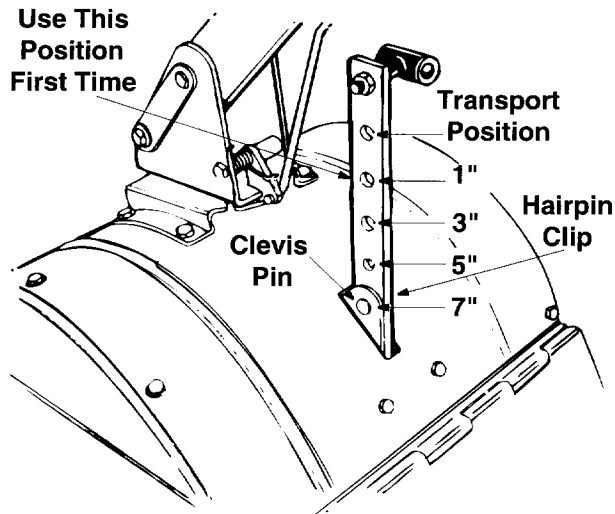
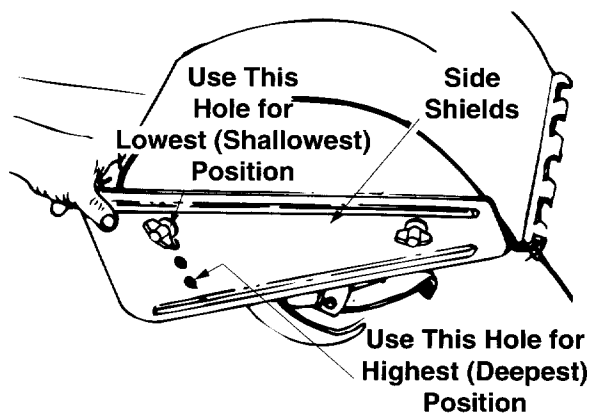

Figure 14
Figure 15
**WARNING:** When operating the tiller for the first time, use the depth stake setting that gives 1 inch of tilling depth (second hole from the top). Refer to Figure 14.
Tilling depth is controlled by the depth stake which can be adjusted to five different settings. See Figure 14. Adjust the side shields as shown in Figure 15, as you adjust the depth stake. Be certain spark plug wire is disconnected and grounded against the engine.
1. When using the tiller for the first time, use the second adjustment hole from the top (1" of tilling depth). See Figure 14.
To adjust the depth stake, remove the clevis pin and hairpin clip. See Figure 14. Move the depth stake to the desired setting. Secure with the clevis pin and hairpin clip.
To adjust the side shields, remove the wing nuts. See Figure 15. Move the side shield to the desired position. Replace the wing nuts. Tighten securely.